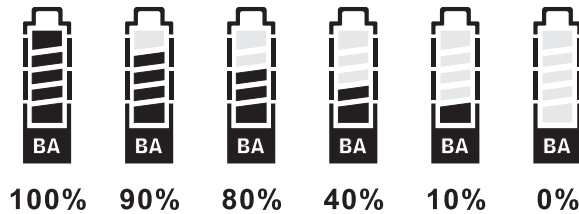

Fig. 19
- 5、 BA: Transmitter Battery Level. The battery meter is lit when the transmitter is powered on. The battery meter gives a percentage (%) indication of remaining battery life, as shown. Replace with new, fresh batteries when battery indicators fall to 10% (1 indicator remaining). Fig. 19.